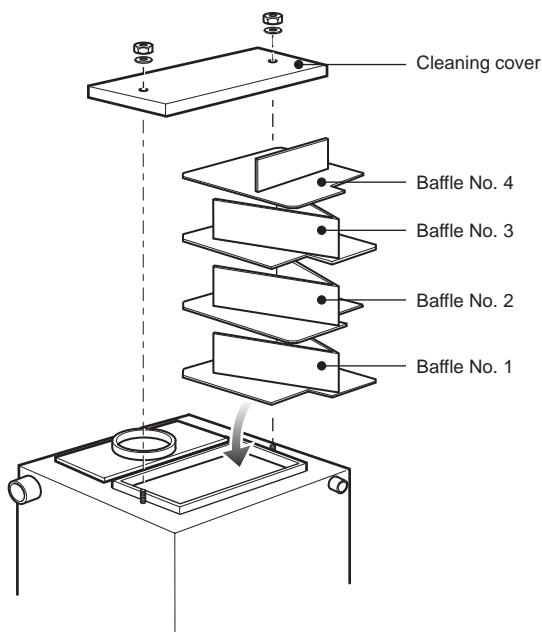

Fig. 17 - 50/70 baffle positions
See Figs. 17, 18, 19, 20 or 21
- 3 Remove the baffles, noting their position (see Figs. 17, 18, 19, 20 or 21).
- 7 Replace the baffles, ensuring they are correctly fitted. See Figs. 17, 18, 19, 20 or 21.